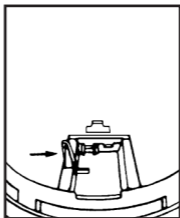
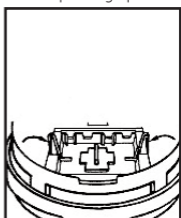

FIGURE 7
FIGURE 7A
5. When installing the battery, press the battery reminder finger down into the battery compartment and install the battery (see FIGURE 7 and FIGURE 7A for the i9080 alarm).
The safety light has a 6.3 V 250mA fuse lamp with an average life of 50 hours. If the safety light fails to operate with a fresh alkaline battery, then replace the lamp. To replace the lamp, remove the alarm from the mounting bracket by rotating the alarm in the direction of the "OFF" arrow on the cover (See Figure 7, and Alarm Tamper Resist Feature section if this feature has been activated).